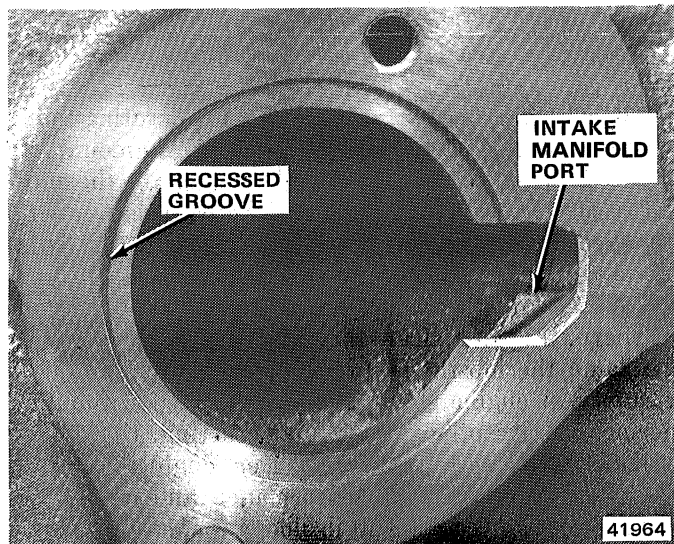

Fig. 1C-6 Thermostat Recess—Six-Cylinder Engine
(1) Drain coolant from radiator until level is below thermostat housing.
(2) Four- and eight-cylinder engines: remove upper radiator hose, thermostat housing cover, gasket and thermostat.
(3) Six-cylinder engine: remove upper radiator and intake manifold hoses, thermostat housing, gasket and thermostat.
(4) Clean gasket mating surfaces.
(5) Install replacement thermostat, gasket, housing cover (four- and eight-cylinder engines) or housing (six-cylinder engines).
**CAUTION:** Observe the recess in the cylinder head (six- and eight-cylinder engines) and position the thermostat in the groove (figs. 1C-6 and 1C-7). Next, install the gasket and thermostat housing or cover. Tightening the housing unevenly or with the thermostat out of its recess will result in a cracked housing.